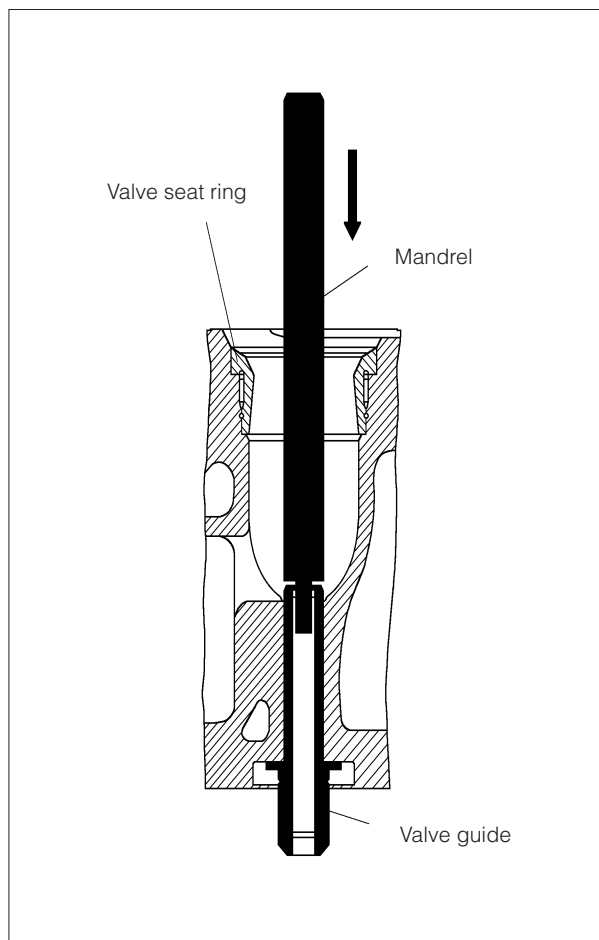

Fig 1.
1) Knock the valve guide out from the bottom of the cylinder head, by means of a mandrel, which has a shoulder turning that fits into the valve guide, *see fig 1*.